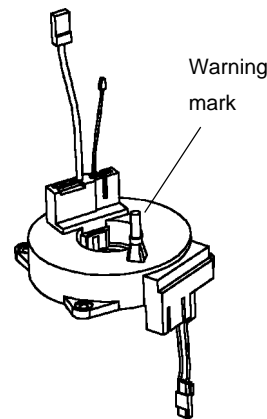

Fig. 3.
- (3) Clock spring, see Fig. 3.